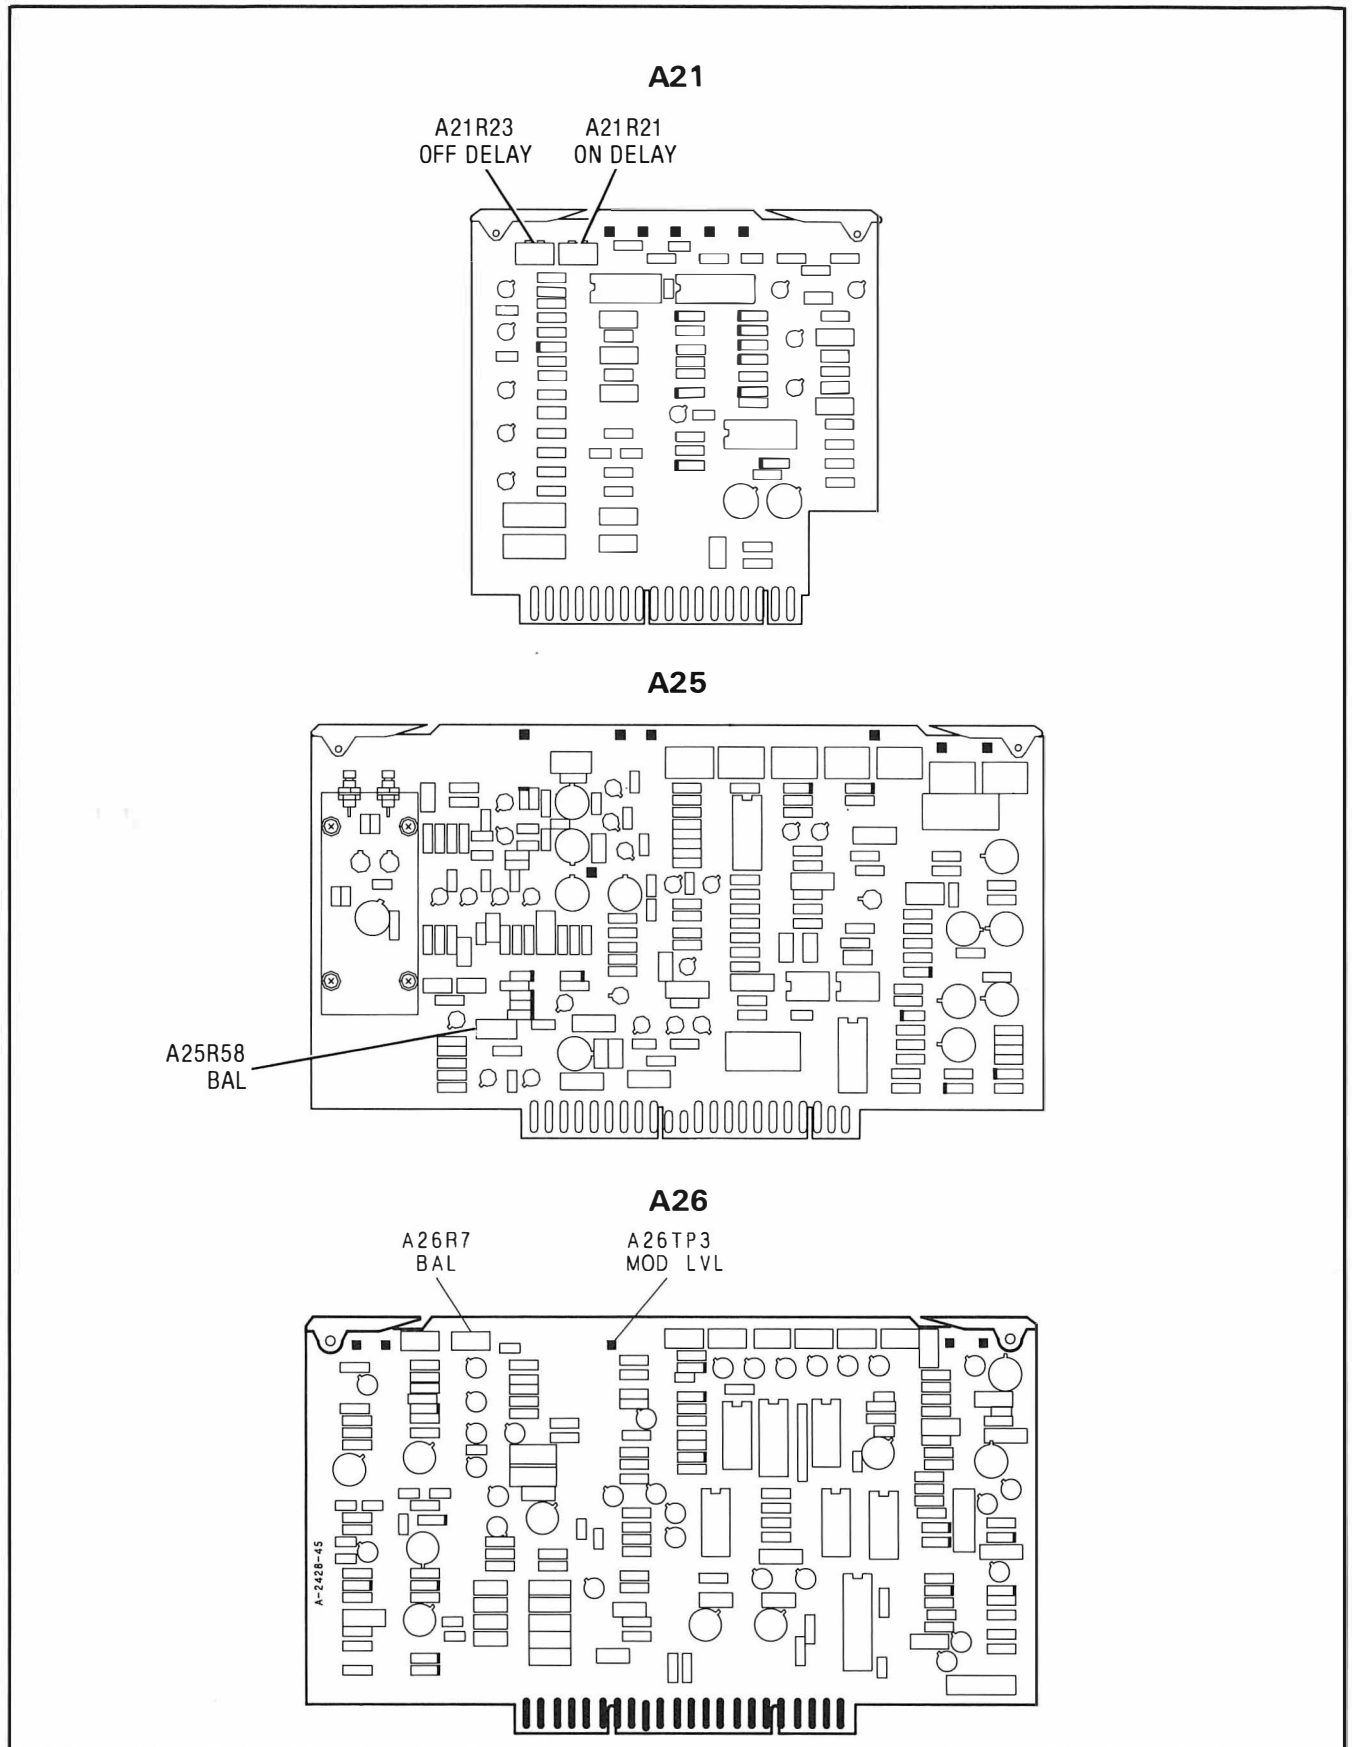

Figure 5-64. Pulse Adjustments Location
4. Press the HP 8340A Under Test [INSTR PRESET]. Press [PULSE] ON. Press [CW] and enter [5] [GHz]. Press [SHIFT] [PWR SWP] and enter [0] [dBm]. Use the stepkeys to step in 10 dB RF attenuation. If the HP 8340A does not include an RF attenuator, connect a 10 dB pad to the RF output. Set A21R21 (ON DELAY) and A21R23 (OFF DELAY) fully counterclockwise. (See Figure 5-64.)